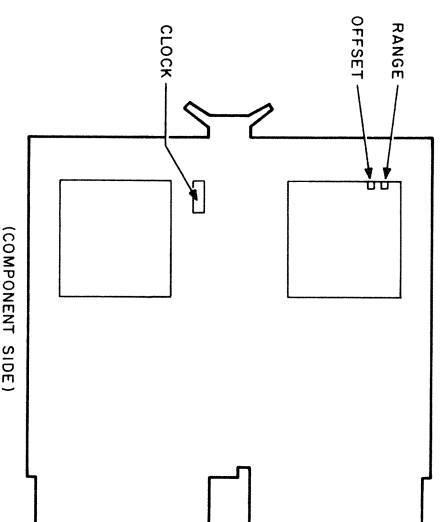

Figure 2-3 A862 A/D Converter
- 2 Connect scope to B13F1 and adjust clock potentiometer (conversion time) to obtain a 24- $\mu$ s positive pulse (see Figure 2-3).